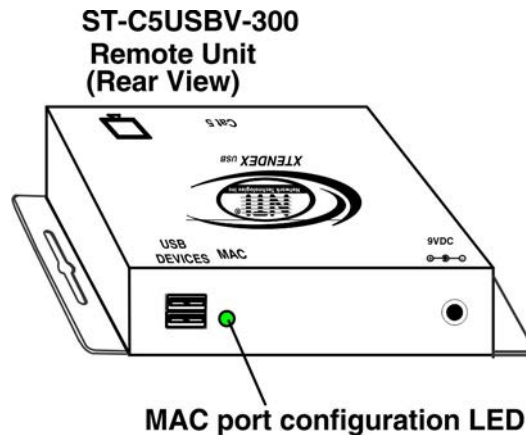

Figure 8- MAC LED
2. If a MAC CPU is connected, press the <M> key. The keyboard LEDs will momentarily flash and the "MAC" LED on the Remote Unit will illuminate to indicate MAC Mode is ON. (See Figure 8)